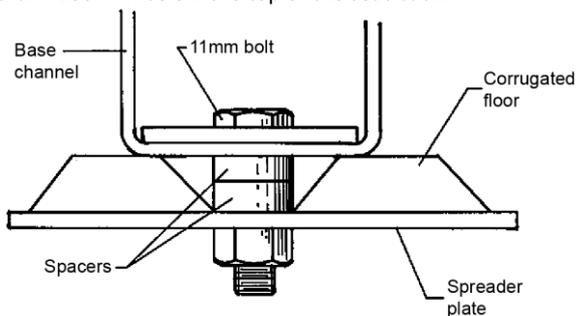

Figure 7: Vertical post attachment
- For corrugated floors, position the base channel so that holes are drilled through the bottom of the vee. Use spacers to fill the depth of the vee (see Figure 7).